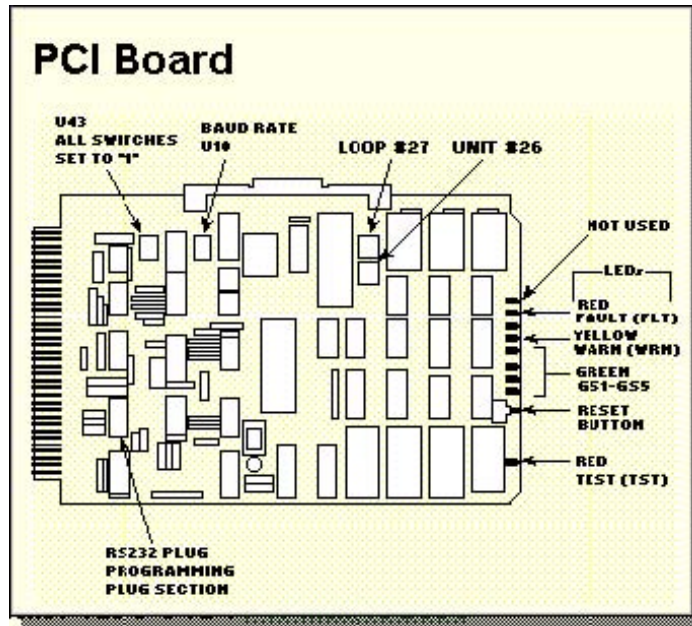

Figure 1. PCI Interface Board (PCI)
1. On PCI locate DIP switches U26 and U27. See Figure 1.
3. Locate DIP switch U10. See Figure 1. Set DIP switch U10 for the correct baud rate for the RS-232C serial port. The baud rate must be set to match that of the Personal Computer being attached to the PCI. The minimum accepted baud rate is 4800 baud; the maximum is 9600 baud (preset factory baud).
4. Verify that a RS232 programming plug is inserted into the U2 socket. The plug selects the RS-232C output. See Figure 1. If the plug is in U1, remove it and insert it in U2. When inserting match pin 1 of the plug to pin 1 of the socket.